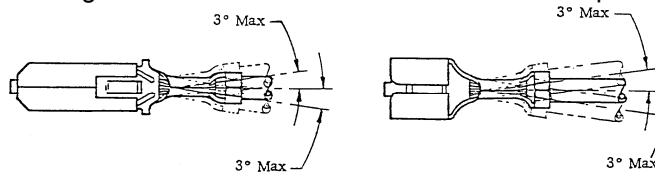

Figure 3
- (2) The side to side bending of the contact shall not exceed the limits specified in Figure 3.